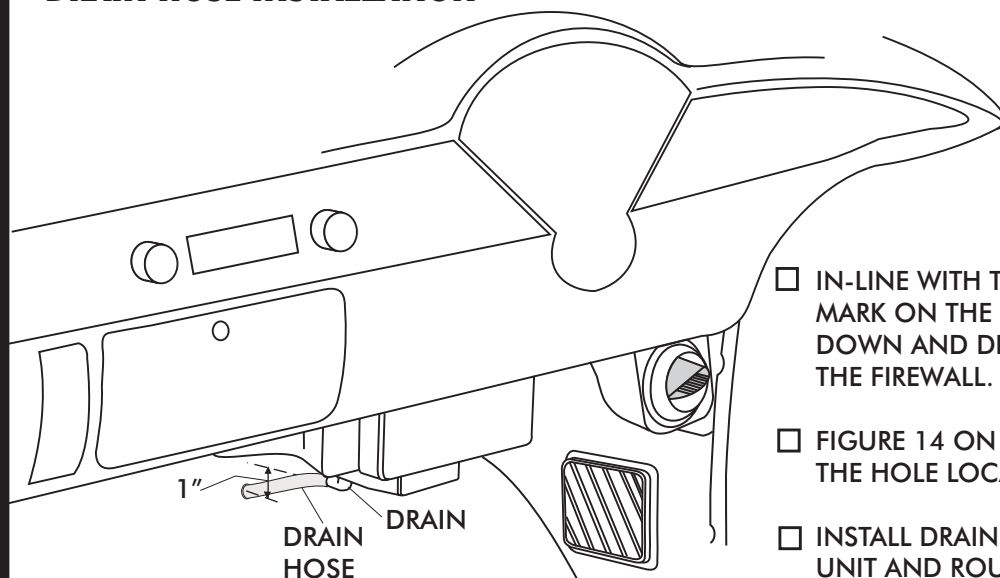
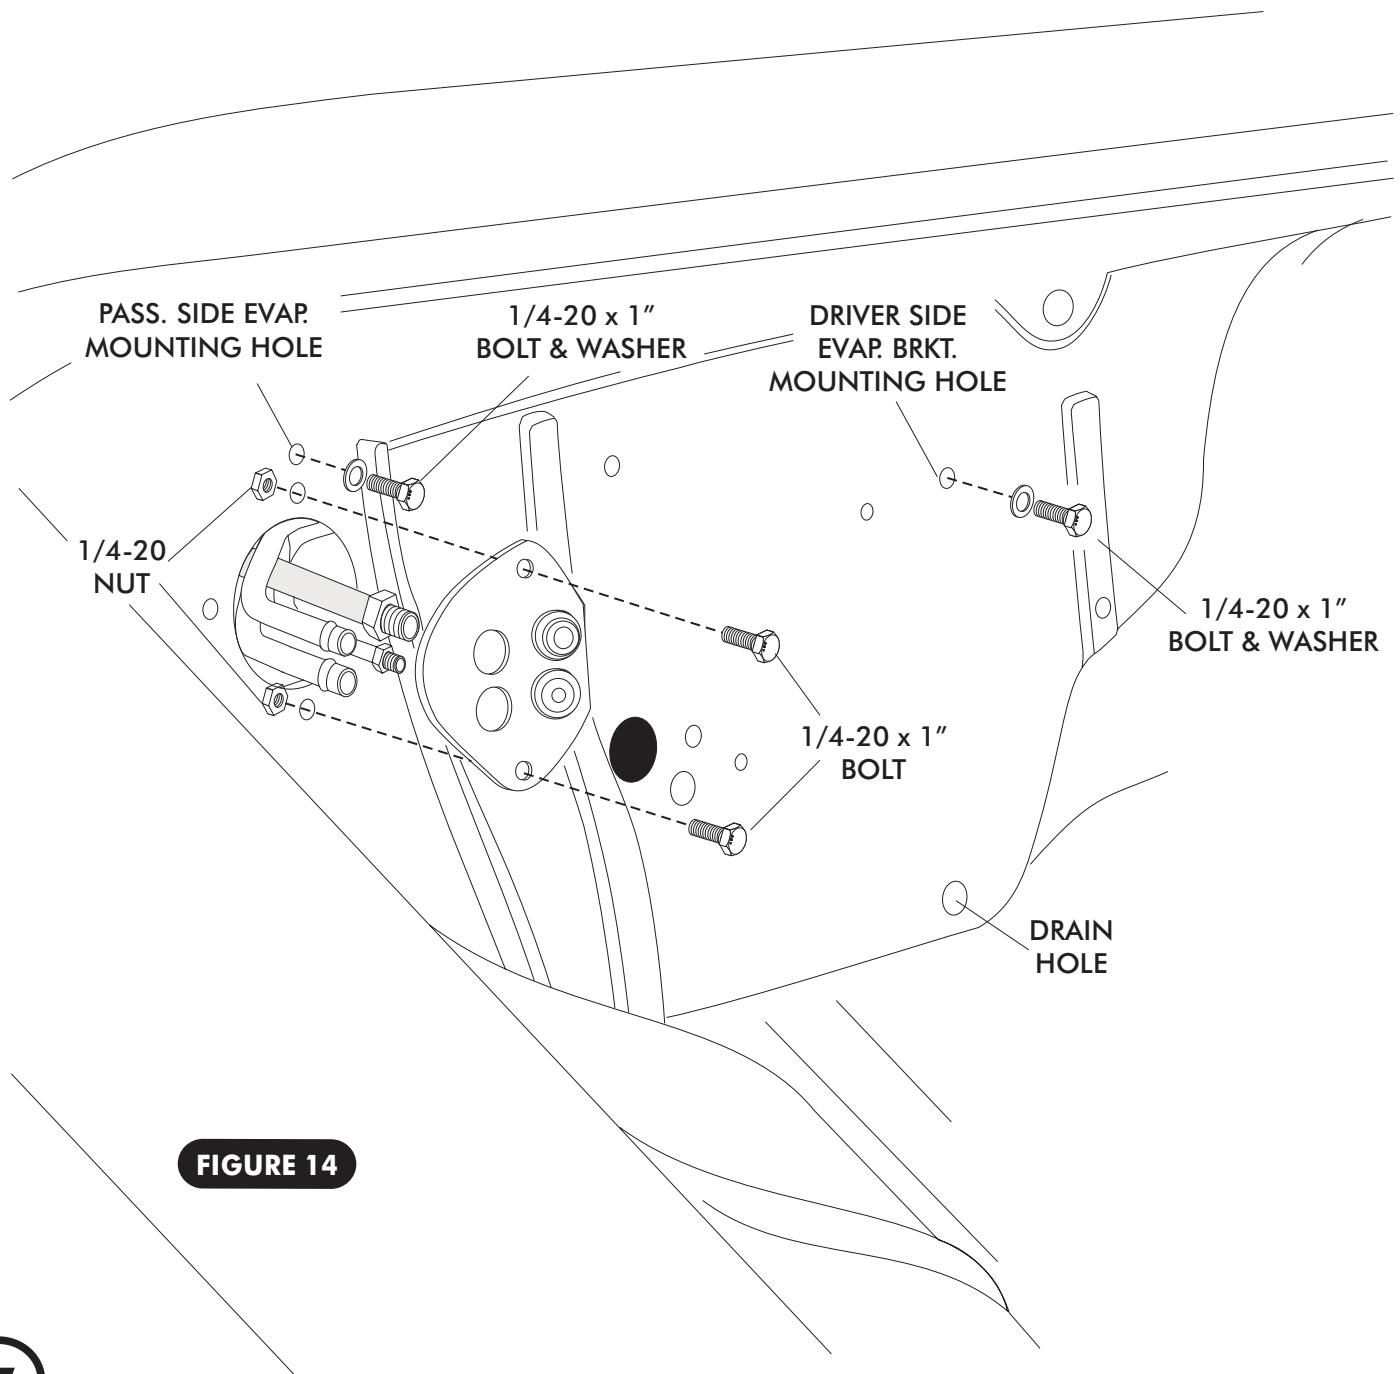

FIGURE 9
FIGURE 14
- ☐ IN-LINE WITH THE DRAIN, LIGHTLY MAKE A MARK ON THE FIREWALL. MEASURE ONE INCH DOWN AND DRILL A 5/8" HOLE THROUGH THE FIREWALL. SEE FIGURE 9.
- ☐ FIGURE 14 ON PAGE 15 WILL SHOW YOU ROUGHLY THE HOLE LOCATION.
- ☐ INSTALL DRAIN HOSE TO BOTTOM OF EVAPORATOR UNIT AND ROUTE THROUGH FIREWALL. SEE FIGURE 9 AND FIGURE 14, PAGE 15.
- ☐ INSTALL FIREWALL COVER. SEE FIGURE 14, PAGE 15.
- ☐ PASS LINES THROUGH FIREWALL COVER, AND SECURE WITH (2) 1/4-20 BOLTS. SEE FIGURE 14 BELOW.